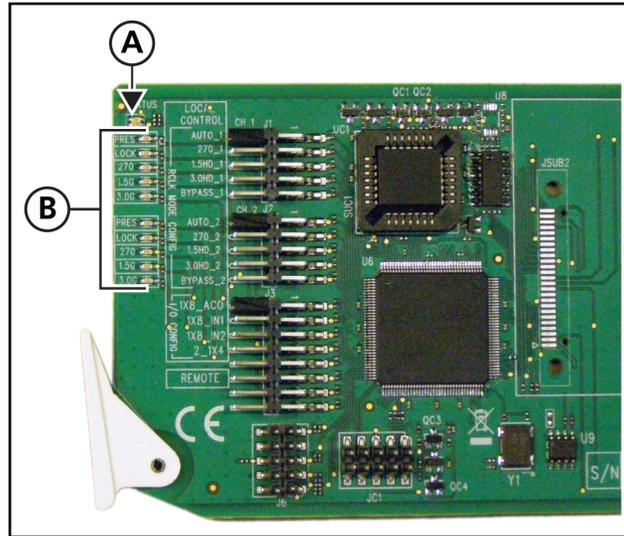

Figure 3-1 LED Locations
LEDs on the front edge of the front module report the operating status when power is ON and signal is applied. The location of the system status (A) and signal condition (B) LEDs are shown in **Figure 3-1**. The meaning of the system status LED color sequence is described in **Table 3-1**. The meanings for the signal condition LEDs are described in **Table 3-2**.